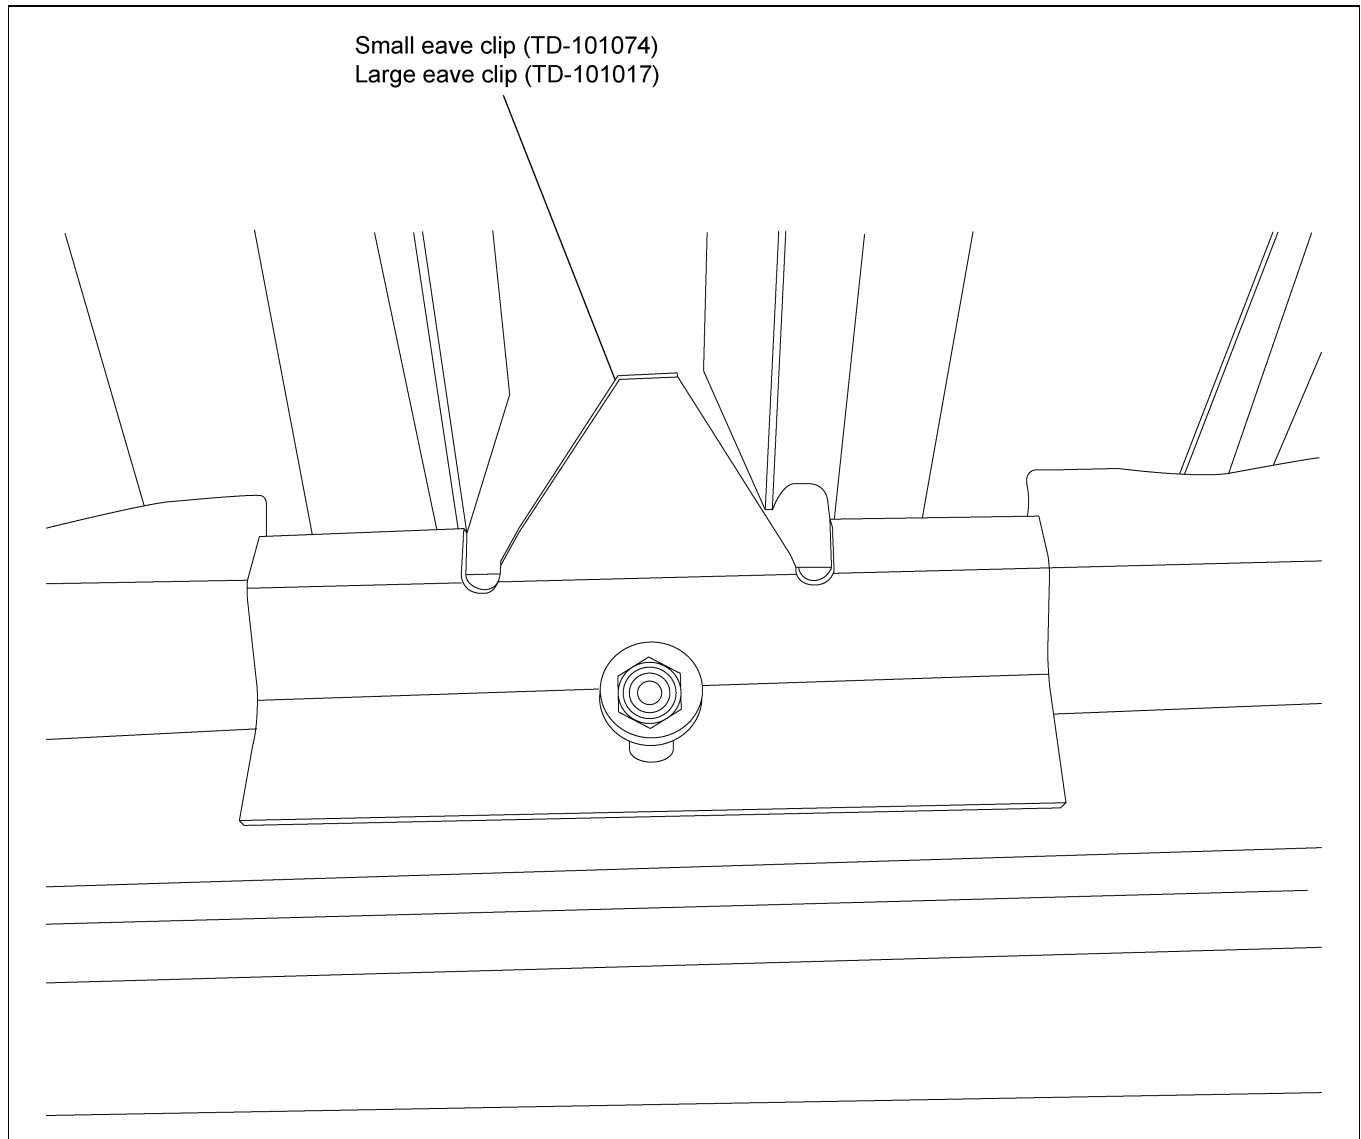

Figure 9C
3. Use roof brackets (TD-100274) shipped in the roof hardware package. *(See Figure 9C.)*